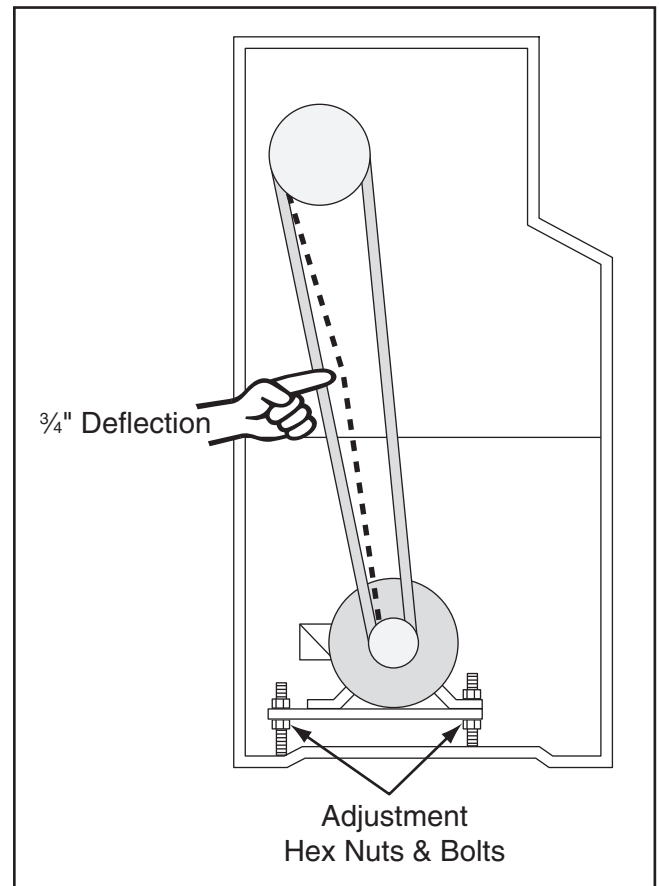

Figure 82. Checking for the proper V-belt tension.
4. Check the deflection of the V-belts by applying moderate pressure midway between the pulleys, as illustrated in **Figure 82**. When properly tensioned, there should be approximately a $\frac{3}{4}$ " deflection.